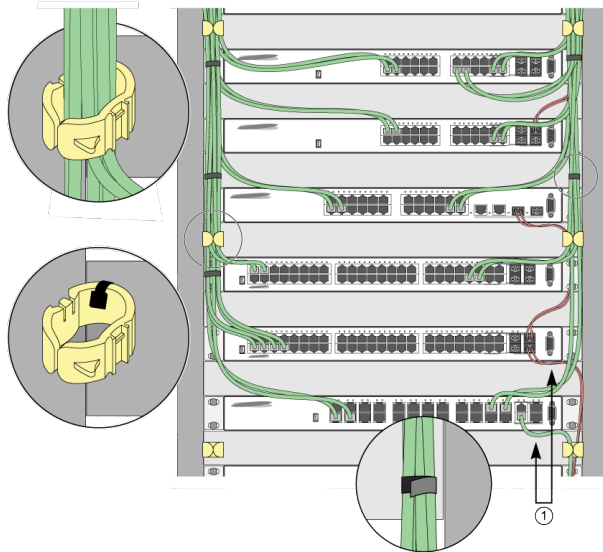

Figure 6: Properly Installed and Bundled Cable
- Provide enough slack, approximately 5 to 7.5 cm (2 to 3 in), to provide proper strain relief as shown in Figure 6 on page 31.
- When installing a patch panel using twisted pair wiring, untwist no more than 2.5 cm (1 in) of the cable to avoid radio frequency (RF) interference.